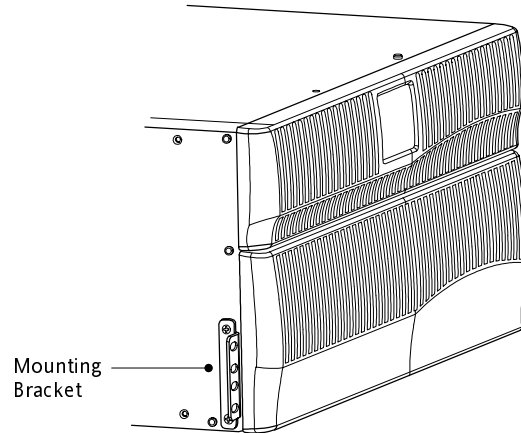

Figure 6. Installing the Mounting Brackets
8. Align the mounting brackets with the screw holes on the side of the UPS and secure with the supplied #6-32 × 3/8" flat-head screws (see Figure 6).